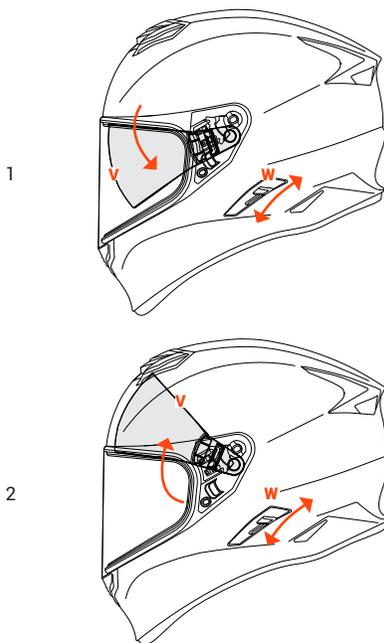

FIGURE 17
**SUN VISOR – V –****How to operate – Figure 17**